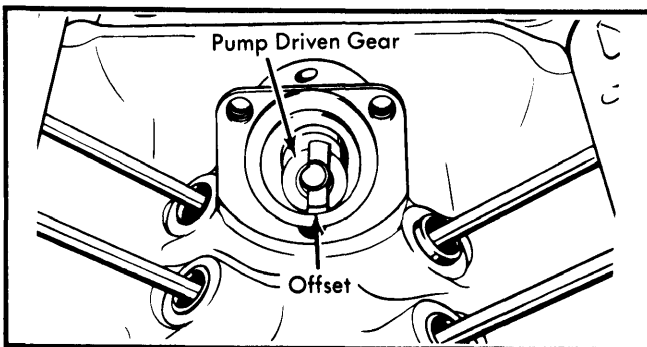

Fig. 14 Pump Driven Gear Offset at TDC (Shown with Intake Manifold Removed)
2) Rotate engine to place No. 1 piston at TDC. Align mark on balancer with ZERO mark on indicator See Fig. 14 for position of driven gear.